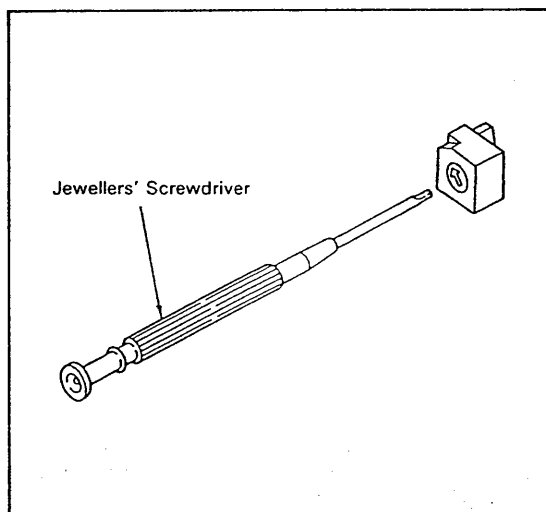

Figure 6-9.
- (1) Turn the POWER switch ON.
- (2) With the input applied, adjust the zero and span adjustments using a jewellers' screwdriver (see Figure 6-9).